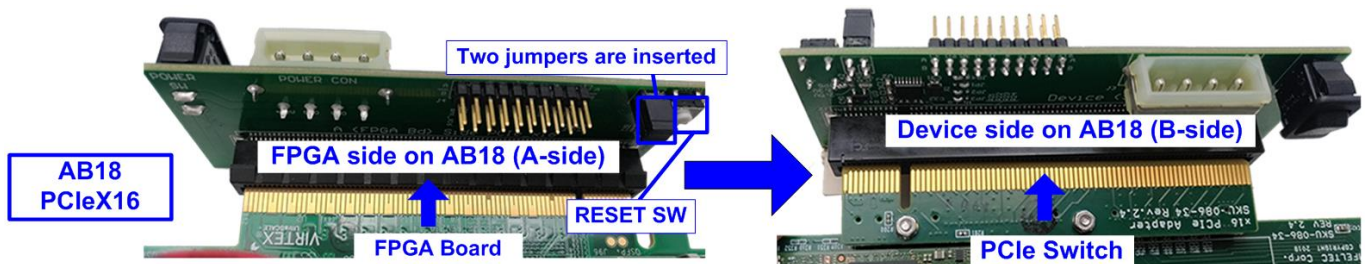

Figure 2-5 Connect AB18 to PCIe switch and FPGA board
c. Connect PCIe switch to device side (B-Side) on AB18, as shown in Figure 2-5.